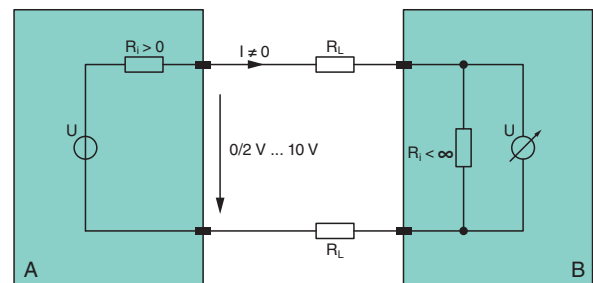

Figure 52 Signal transfer
Figure 52 shows the principal structure of the transfer route with a signal converter (A) that converts a sensor signal into a 0/2 V to 10 V standard signal and transfers it to the control (B).